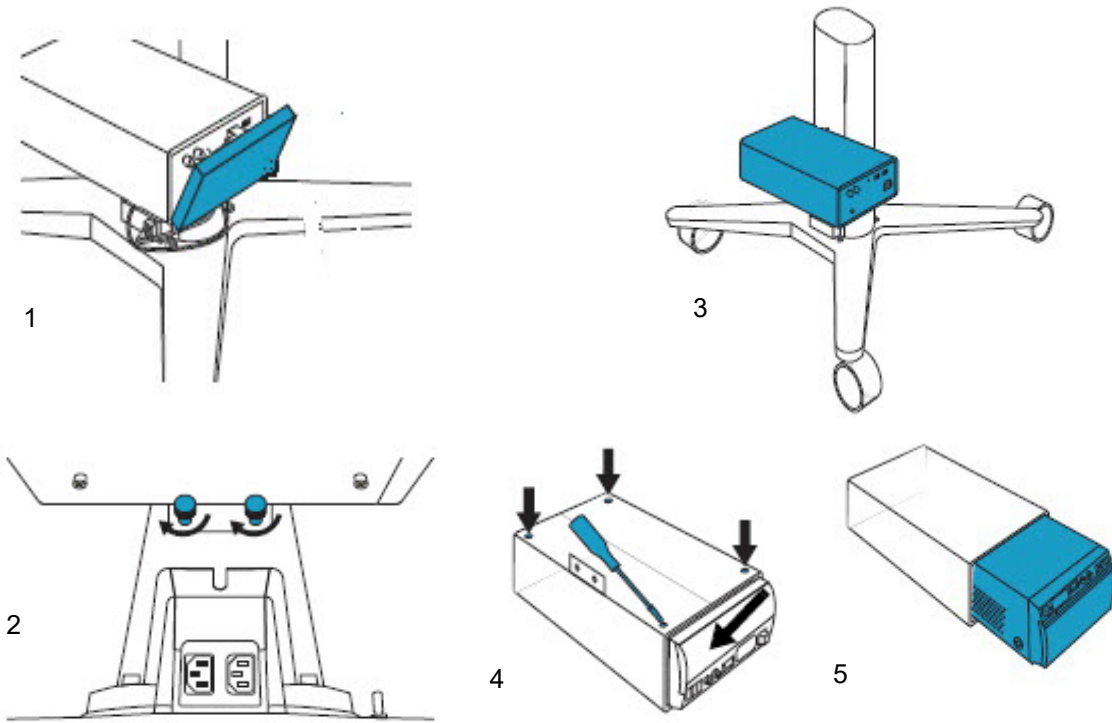

Figure 6.29 Printer Replacement
- 1 Remove the rear cover on the printer, exposing the USB and power cables per Figure 6.29 on page 70